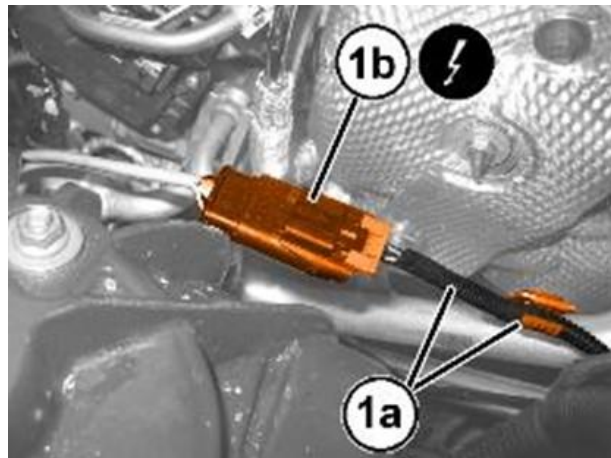

Figure 94 – Electrical Connector
38. Release the wiring (1a) and disconnect the electrical connection (1) for the upper oxygen sensor (Figure 94).